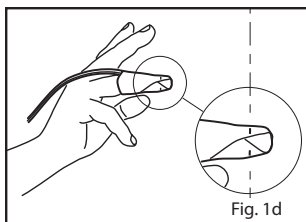

Fig. 1d
4. Refer to Fig. 1d. When properly applied, the emitter and detector should be vertically aligned (the black lines should align). Reposition if necessary.